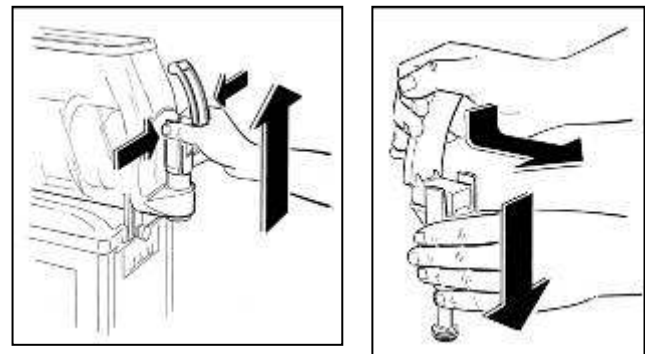

Fig. 16
- Simultaneously press the two securing tabs and lift the tap to extract it from its seat (see fig.16).
- Disassemble the tap by keeping the body pressed down and slipping the lever from its seat (fig.16).